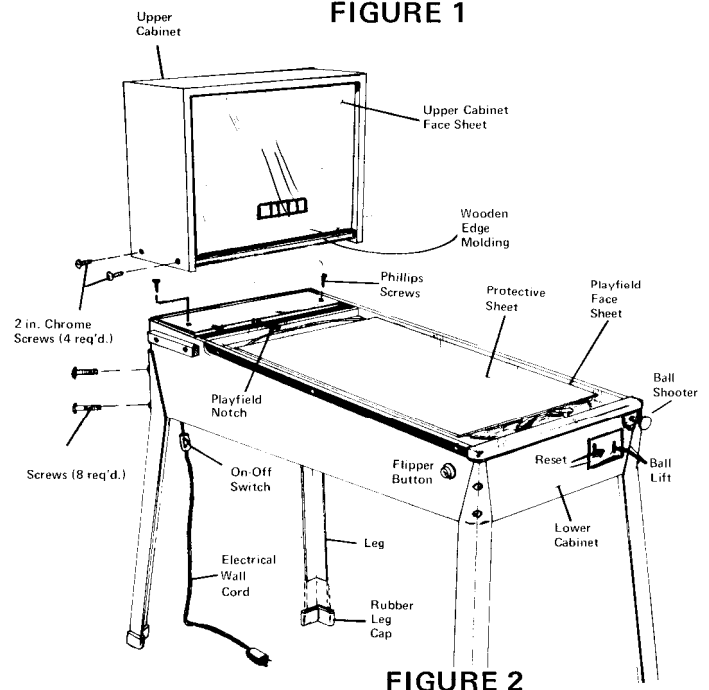

FIGURE 2
4. Carefully turn the cabinet to an up-right position. (Figure 2)
6. Again, carefully lift the Playfield face sheet and insert the three (3) steel balls into the Playfield at the notch. (Figure 2)
7. Remove the two (2) Phillips screws securing the inverted scoring unit at the upper end of the Playfield. Save the screws for reattachment of the scoring unit. (Figure 2)
8. Un-coil the electrical wall cord and drape over the rear of lower cabinet. (Figure 2)
10. Slide the upper cabinet face sheet into the guide slots at front of the upper cabinet. Make sure that all three edges of the face sheet are firmly seated in the grooves. (Figure 2)
11. Fit the wooden edge molding onto bottom of face sheet as shown in Figure 2 with painted side of edge molding to outside.